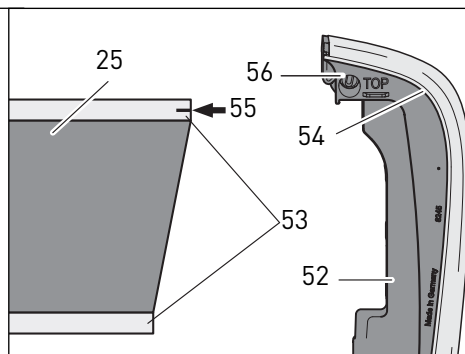
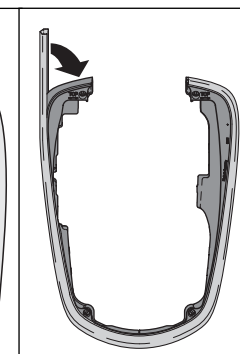
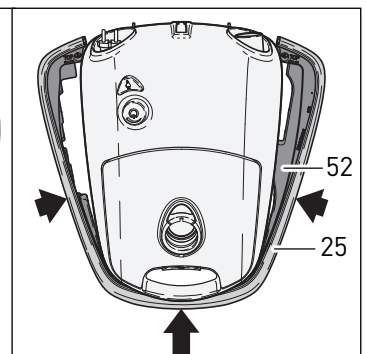

Figure 31
Figure 32
Figure 33
Fit the new AIRBELT cloth cover (25) over the foam bumper (52) by inserting the side rails (53, figure 31) of the cloth cover (25) into the grooves (54) of the foam bumper. The upper side rail of the cloth cover has a mark (55, figure 31). Insert the upper side rail with the mark into the groove which is marked "TOP" (56, figure 31). Start from one end and continue fitting the cloth into the grooves around the bumper (figure 32). Fit the bumper assembly to the front of the machine, then press in around the sides toward the rear (figure 33).